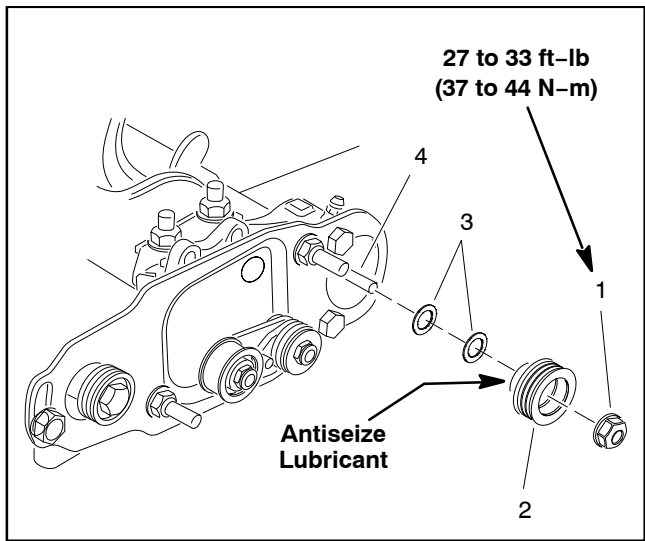

Figure 71
B. If necessary to align pulleys, remove driven pulley from brush shaft and add or remove flat washer(s) until drive and driven pulleys are correctly aligned (Fig. 71).
5. Install cover (item 20). There **should not** be a set screw installed in the bottom of the cover.